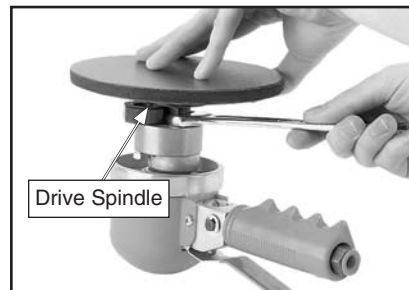

Figure 8. Installing sanding pad.
1. Thread the sanding pad onto the drive spindle (**Figure 8**) and tighten with a 17mm wrench.